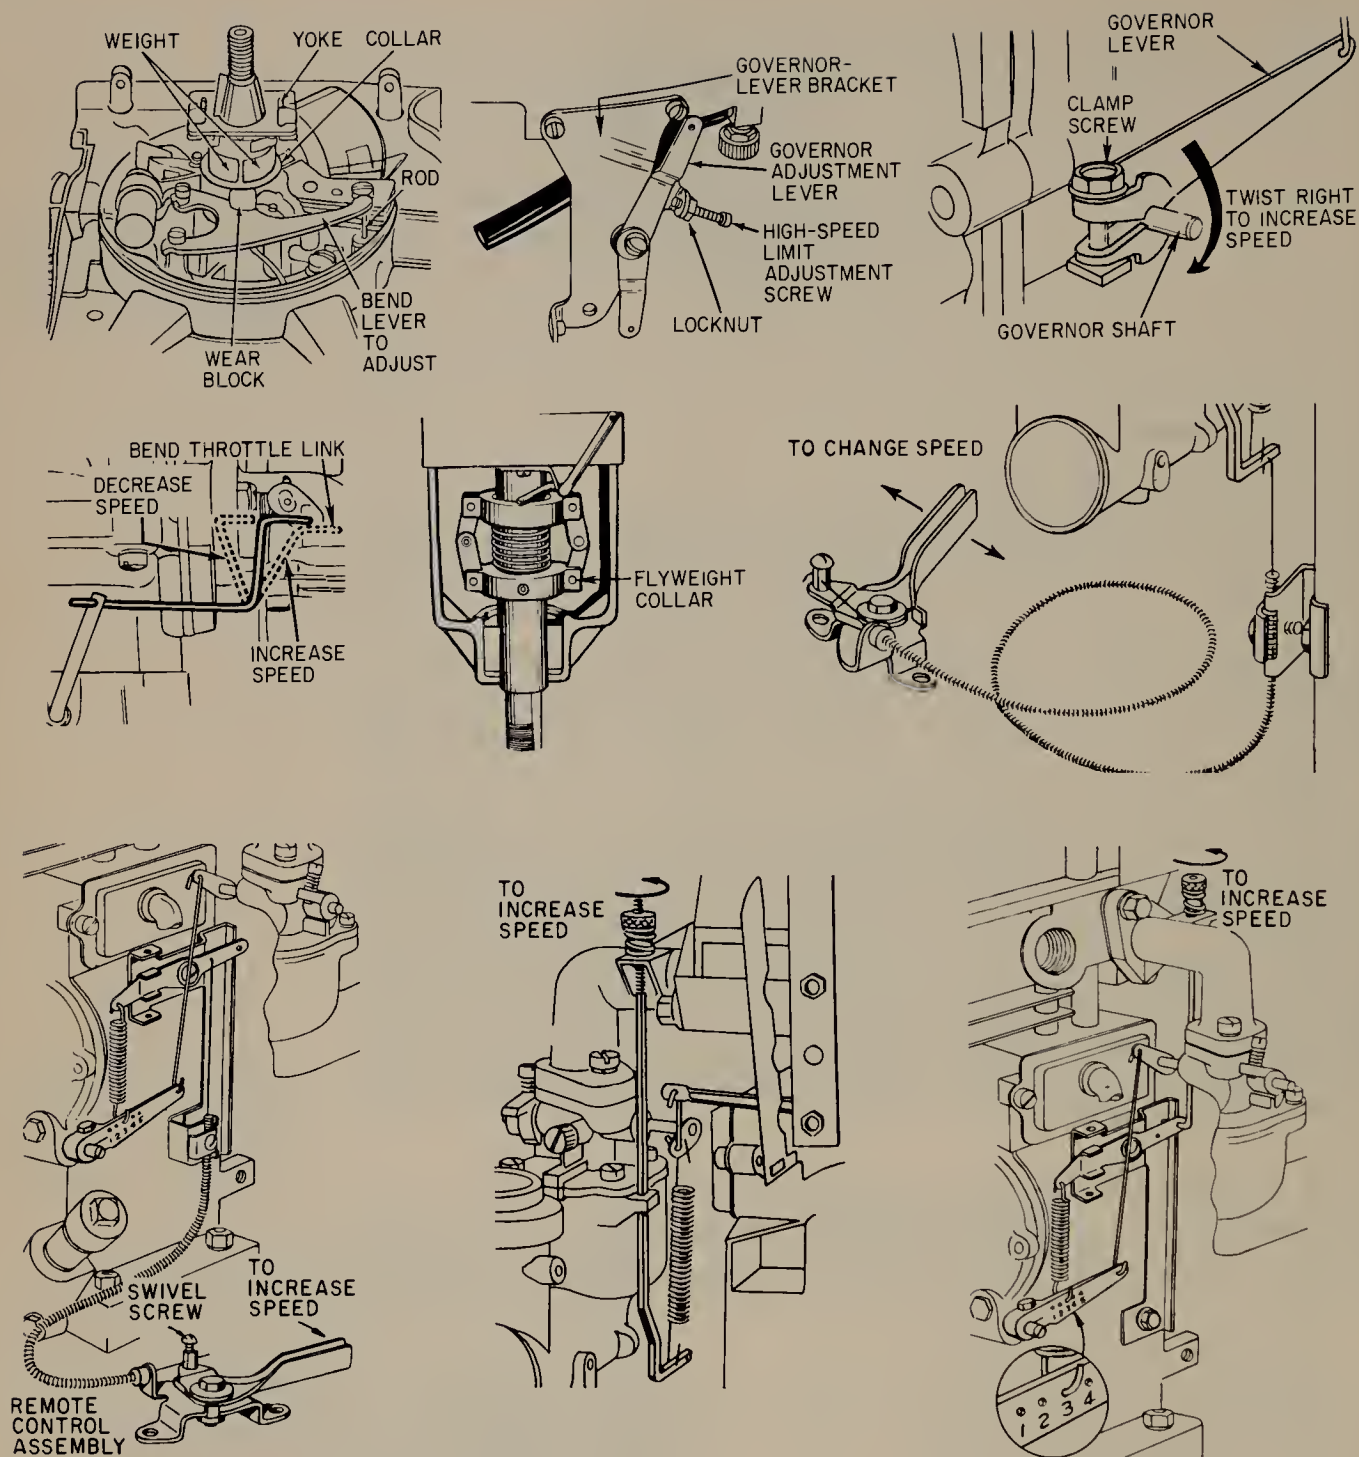

FIGURE 15.38 Methods of adjusting governor on different engines. The nine methods shown here include most adjustment methods.
15.19 Adjusting Governors. Figure 15.38 shows various methods of adjusting governors of different designs. One of the most important things to remember when adjusting a governor is not to increase
If you cannot find the design of governor linkage you are working on in Fig. 15.38, refer to the service manual covering the model engine on which the governor is mounted.